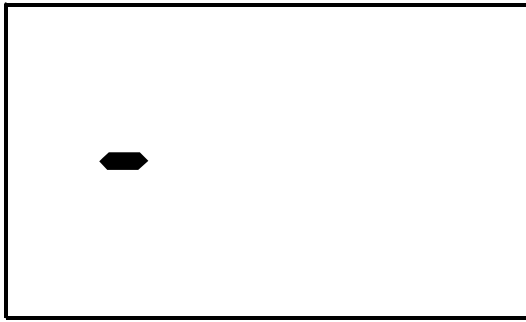

Figure 4
2. Move the top of the meter close to the object to be tested. When the meter detects ac voltage, the built-in buzzer will beep and the display will indicate the intensity of the detected electric field. The intensity of the detected electrical field is indicated by the number of the bar-graph segments at the vertical center of the display and the beeping rate of the built-in buzzer. The higher the intensity of the detected electric field, the larger the number of the bar-graph segments (refer to Figures 4 and 5), and the faster the beeping rate of the buzzer.